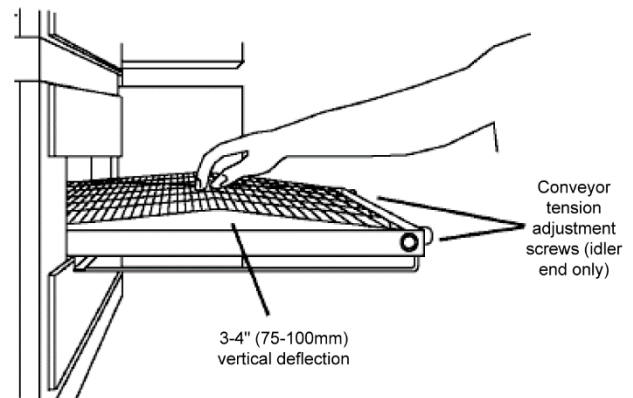

Figure 26. Conveyor Belt Tension
- Replace main orifices (Figure 26)
2. Replace the main orifices (Figure 26) on the manifold assemblies with the supplied LP orifices and replace the manifold assembly. Reconnect and secure the union. Check for leaks.